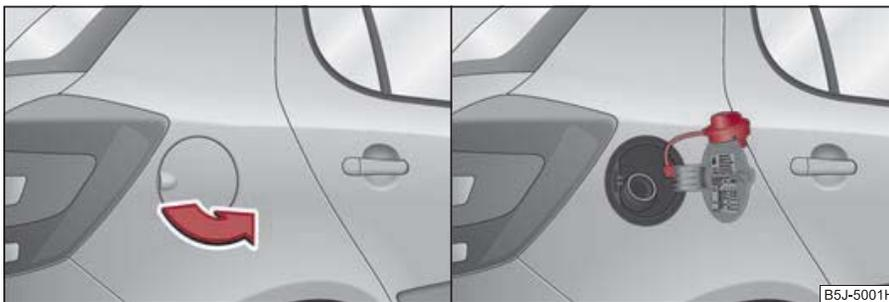

Fig. 11 Right rear side of the vehicle: Fuel filler flap/fuel filler flap with cap unscrewed
- Open the fuel filler flap with the hand ⇒ fig. 11 - left.
- Unscrew the fuel filler cap anti-clockwise and place the fuel filler cap from above on the fuel filler flap ⇒ fig. 11 - right.